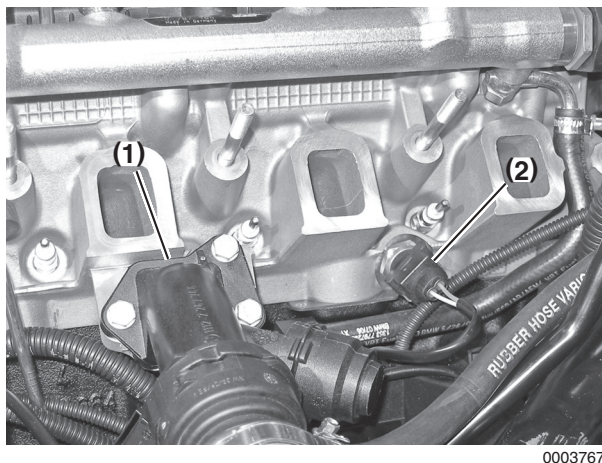

Figure 5-41
11. Connect harness connector to temperature sensor (**Figure 5-41, (2)**).
12. Install coolant branch fitting (**Figure 5-41, (1)**) with a new seal and tighten bolts.